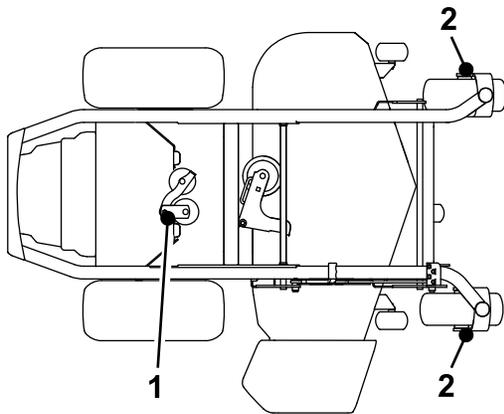

Figure 41
4. Grease the pump idler-pulley pivot with 1 or 2 pumps of grease (Figure 41).
5. Grease the front caster axles (Figure 41).